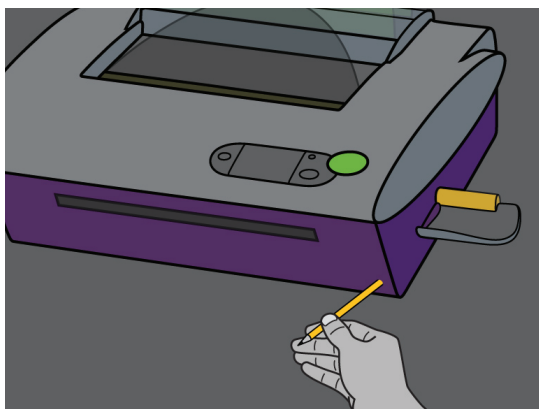

FIGURE 30
3. Open the machine by pushing the eraser end of a pencil (or similar object) through the hole in the lower right corner of the machine (figure 30) until the machine cover pops open slightly.